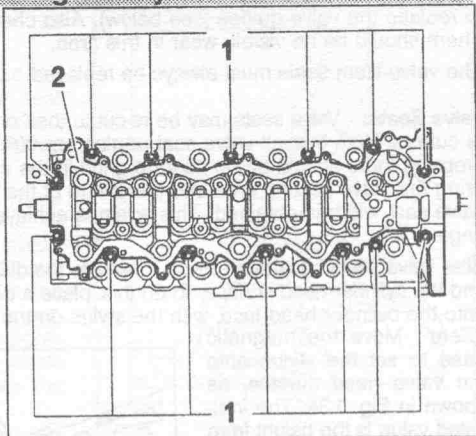

Fig. 1.32. — The location of the camshaft bearing housing bolts (1). The housing is removed upwards.
- Refer to Fig. 1.32 and remove the bolts (1). Slacken the bolts in several turns from the outside towards the inside and take off the camshaft bearing housing (2).